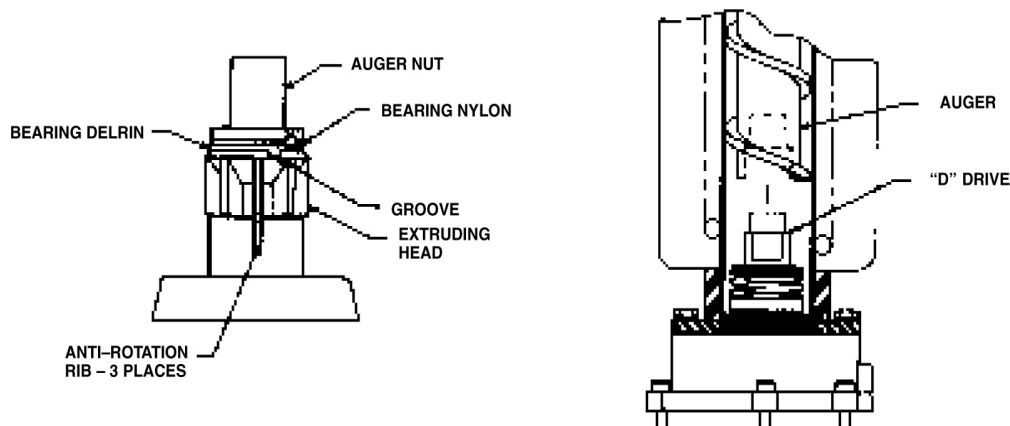

Figure 8. Auger and Extruding Head Removal
4. When replacing the auger assembly, make certain that both the auger engages the output shaft drive and the extruding head ribs engage the evaporator tube. (See Figure 8)